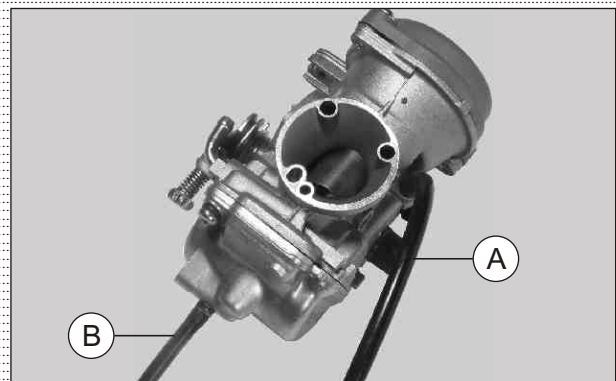

Fig. 4.18
- Remove hose air vent (A) and hose drain (B). (Fig. 4.18)